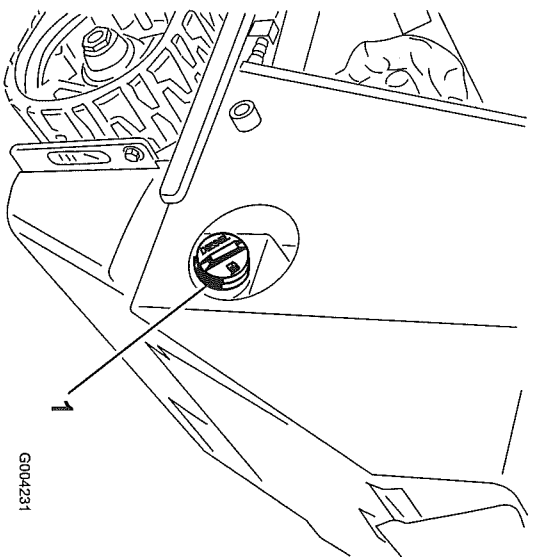

Figure 16
1. Remove the fuel tank cap (Figure 16).